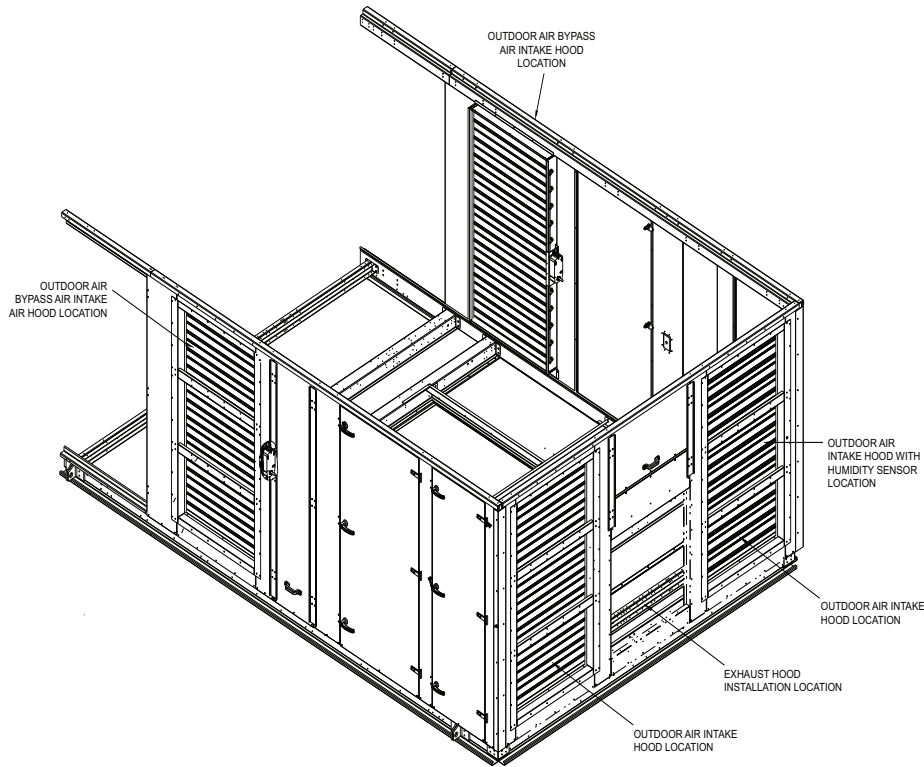

Fig. 40 — ERV Hood Locations
- f. Attach hood to end of unit. See Fig. 40.
6. Install remaining hoods on unit. See Fig 40 for location.
4. Install hoods on unit. See Fig. 40 for location.